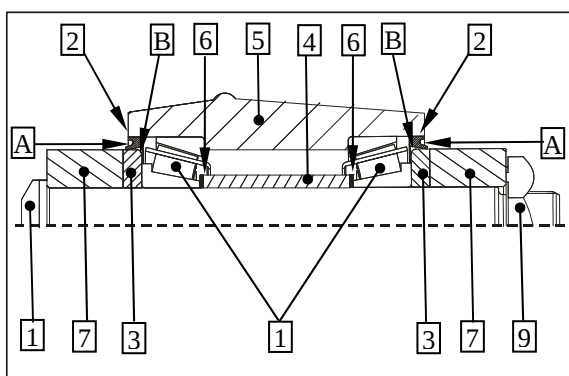

Figure 10
☞ Pay attention to the installation position of the scraper (2) (see arrow „A“, Figure 10).
☞ Insert ring (3) with grease, with the radius on the outer diameter facing the bearing inner ring (see arrow „B“, Figure 10).
Legend to Figure 10: